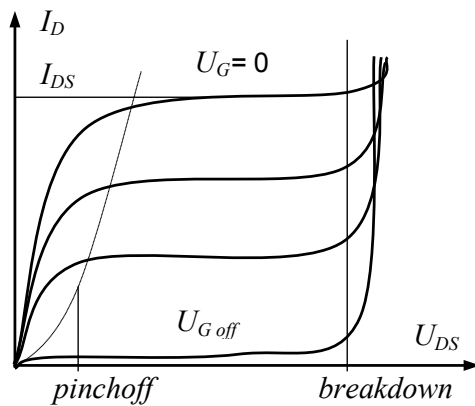

Fig. 1.33
**Output characteristics.** Fig. 1.33 illustrates a set of *drain curves* of a JFET. The drain current  $I_D$  versus drain-source voltage  $U_{DS}$  increases rapidly at the first ohmic region, then levels off and becomes almost horizontal at the second active region. If the drain voltage is too high, the JFET breaks down. The minimum voltage of the second active region is called a *pinchoff*, and the maximum voltage is called the breakdown. Between the pinchoff and breakdown, the JFET acts approximately like a stable current device with a shorted gate. The gate voltage  $U_{G\ off}$  of the bottom curve is called a *gate-source cutoff voltage*. This voltage closes the transistor. As shown in Fig. 1.33, in the ohmic region, the drain resistance depends on  $U_G$ . Unlike the bipolar transistors, one can change this quantity by altering the gate voltage. Typically, the on resistance of a FET device is on the order of  $10\ \Omega$  to  $100\ \Omega$ .